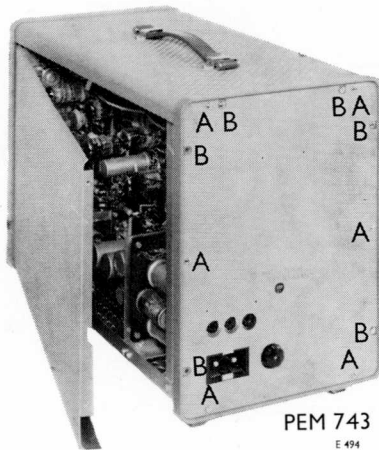

Fig. 5. Removing the panels
A. REMOVING THE CABINET (see Fig. 5)